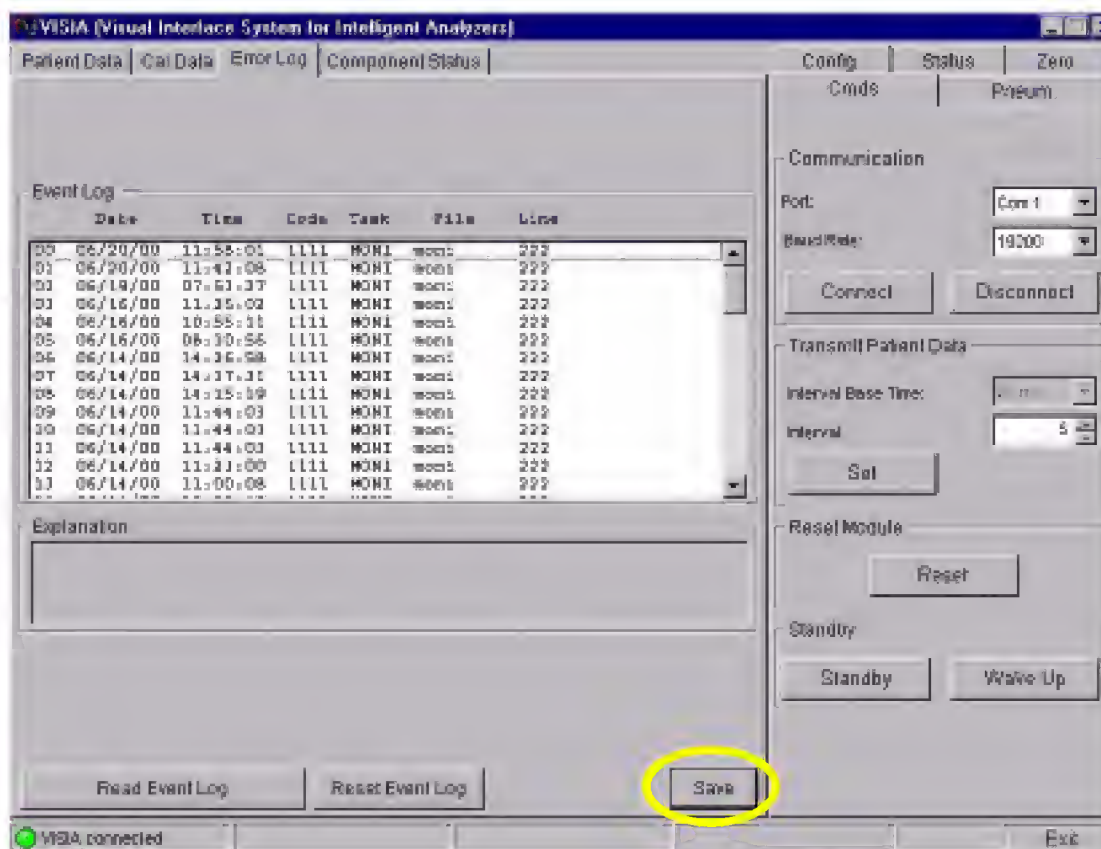

Fig.101: Error log page
- Press the "Save" button to save the error log (see Fig. 101; yellow marking).